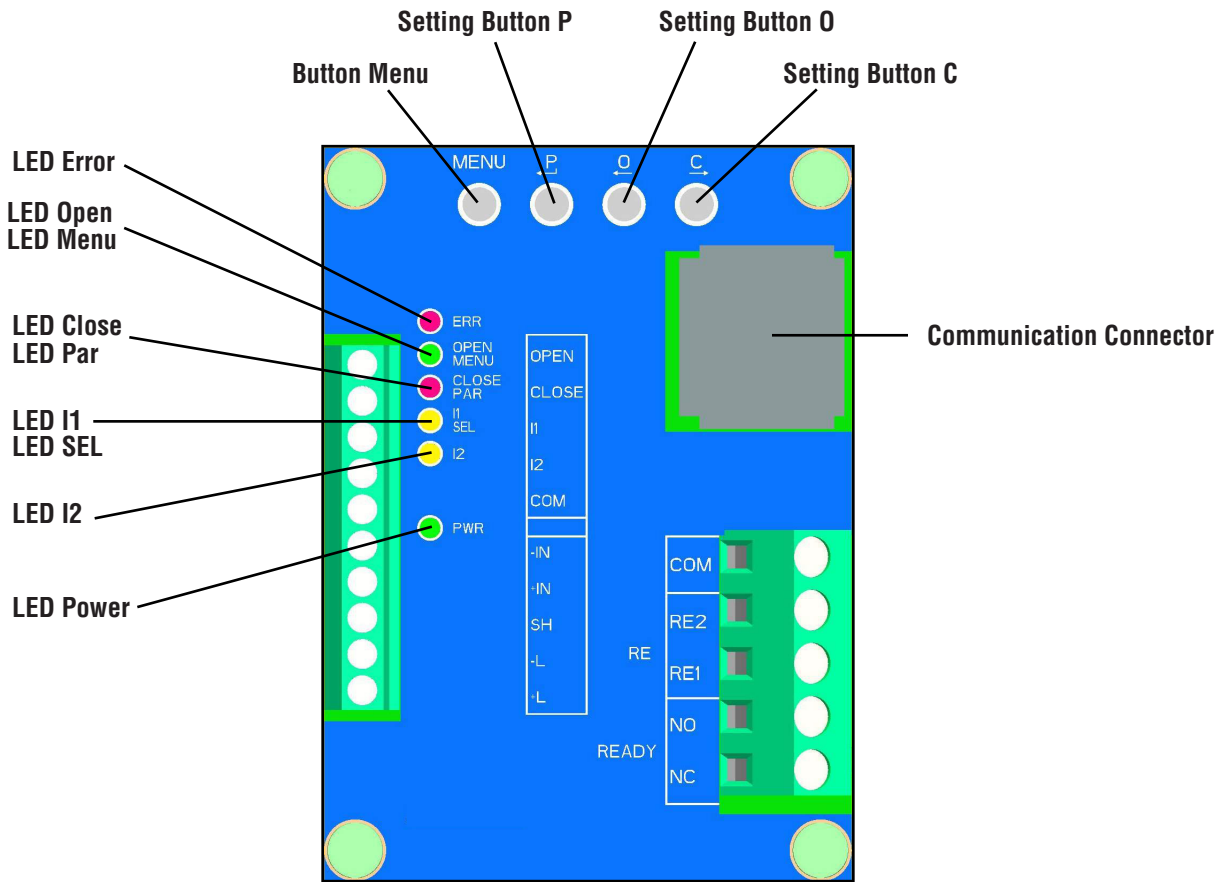

Figure 7
AEL is delivered adjusted to parameters according to type and label from production plant. Adjustment is made to mechanical and electrical connected actuator. This section describes how to set up the AEL to parameter values within a range applicable for the software. Location of adjustable parts are on **Fig. 7**.
- By the control unit buttons (**see Fig. 7**)
- Six signal lamps according (LED diode) to **Fig. 7**